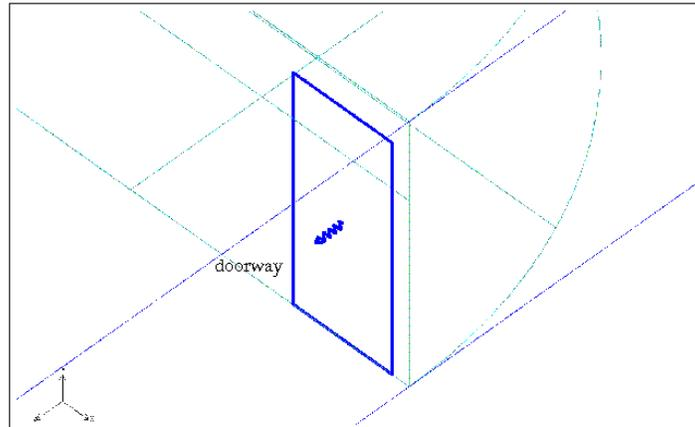

Figure 4.9: Close-Up View of the Opening Object
- (a) Use the right mouse button to zoom into the CAD geometry representing the doorway and the middle button to translate the view, as shown in Figure 4.9.
- ii. Using the left mouse button, click on the rectangle that comprises the doorway (shown in Figure 4.9) in the graphics window.